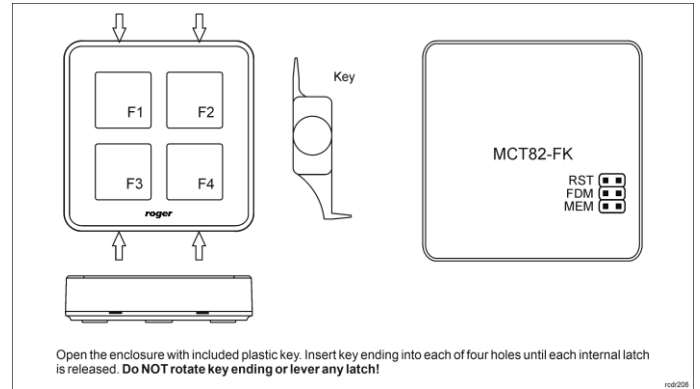

Fig. 3 MCT82-FK enclosure opening and location of service contacts
Note: Remote configuration of device from VISO v2 software is possible only if jumper is placed on MEM contacts (fig. 3). If the jumper is removed then such configuration is blocked. In case of factory new device, jumper is placed on MEM contacts.
In RACS 5 v2 system the panel can be installed at site without previous configuration. According to AN006 application note, its address and other settings can be configured from VISO v2 management software and during such configuration the access to its service contacts (fig. 3) is not required.
2. Remove jumper from MEM contacts (fig. 3) if it is placed there.
2. Place jumper on FDM contacts (fig. 3).